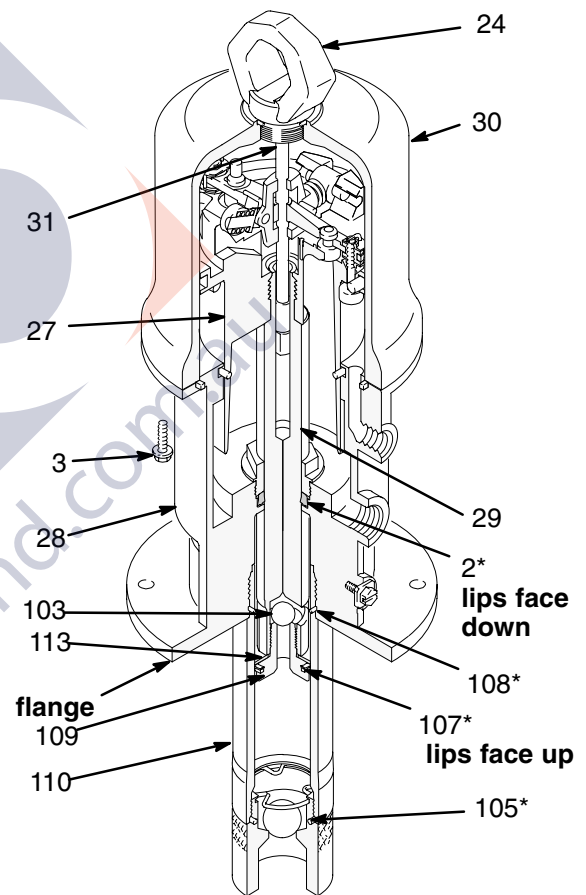
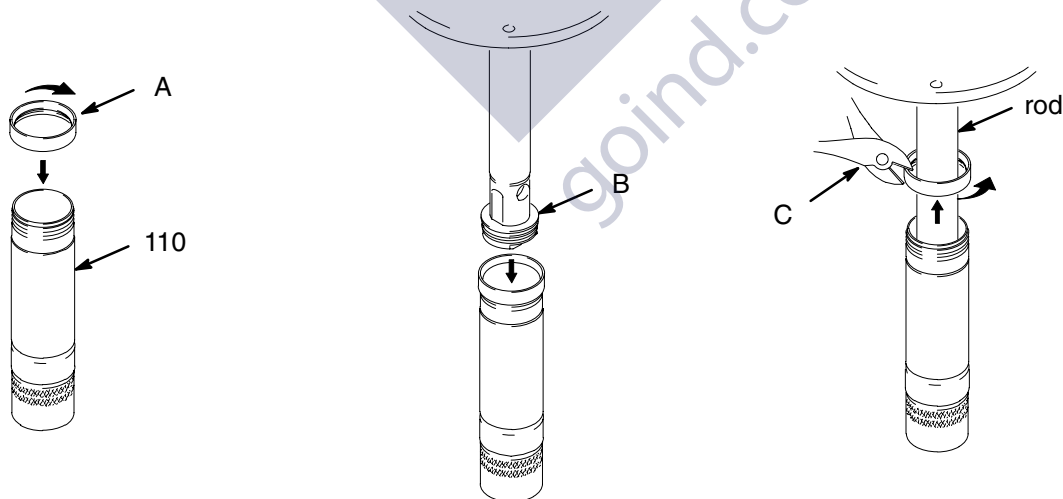

Fig. 3
Fig. 5
3. Disconnect the hoses, remove the pump from its mounting, and clamp the air motor base (28) in a vise horizontally by closing the vise jaws on the flange.
4. Use a strap wrench on the displacement pump cylinder (110) to screw it out of the air motor base (28). See Fig. 3.
5. Remove the piston/valve seat (109) from the displacement rod (29) with wrenches or with the vise and a wrench.
6. Remove the piston ball (103), seal (107*), and seal retainer washer (113).
7. Remove the air motor base from the vise, and place the displacement rod (29) flats in the vise with the air motor up.
8. Loosen the lift ring (24). Pull up the lift ring, grip the trip rod (31) with the padded pliers, and screw the lift ring off of the rod.
- Grip the trip rod (31) with padded pliers, screw the lift ring (24) onto the trip rod, push the lift ring down, and screw it into the top of the cylinder.
- Install the seal (107*) with the lips up, and place the seal retainer washer (113) on the piston/valve seat (109). *Make sure the lips of the seal face up.* See Fig. 3.
- Place the piston ball (103) in the displacement
- Clean the threads of the piston/valve seat (109), Apply Loctite® to the threads, and thread the assembly from Step 16 onto the displacement rod (29).
- Clamp the flats of the piston/valve seat (109) in a vise, and torque the displacement rod (29) to the piston valve seat to 45 to 55 ft-lb (61 to 75 N.m).
- Clamp the air motor base (28) in a vise horizontally by closing the vise jaws on the flange
- Thread piston assembly tool (A) (included in repair kit 238751) onto the threads of the displacement pump cylinder (110). See Fig. 5.
- Insert the piston assembly (B) into the displacement pump cylinder.
- Unscrew the piston assembly tool from the displacement pump cylinder. Clip the piston assembly tool with a diagonal cutter (C), and discard it.
- Use a strap wrench to screw the displacement pump cylinder (110) to the air motor base (28). See Fig. 3.